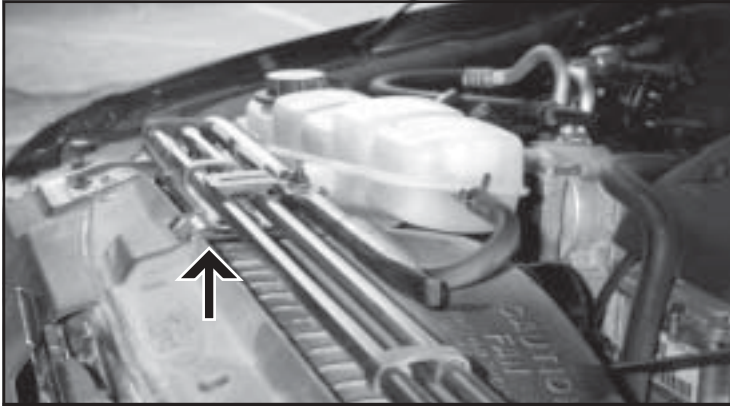

FIG. 5—Jack accessories
18. Remove the tire iron, jack accessories, and their mounting clamps from the top of the core support (Fig. 5).